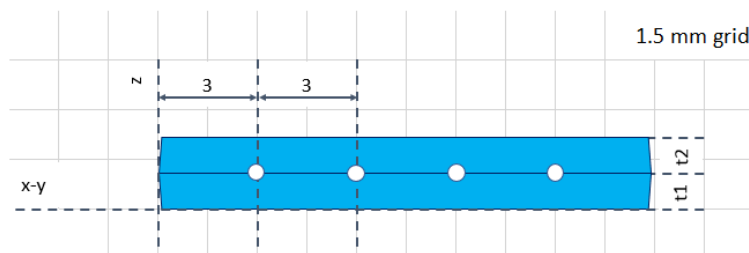

Figure 5: port position based on a 3 mm pitch
- The preferred port pitch is 3 mm, also starting with the first port at 3 mm from the outer edge (see figure 5).